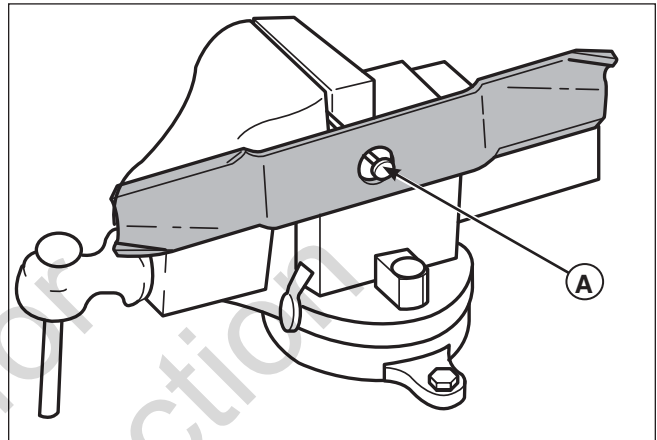

Figure 26. Balancing the Mower Blade
2. See Figure 26. Put the mower blade on a nail in a vise and turn the blade to the horizontal position.